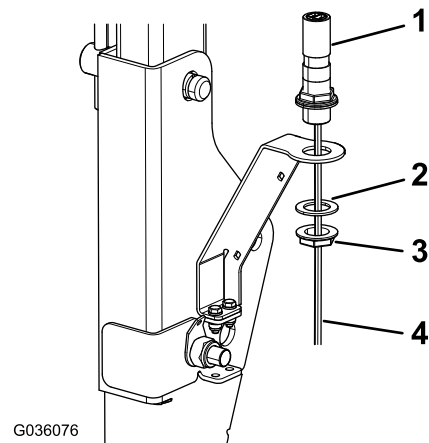

Figure 4
1. Install the beacon stand to the beacon bracket (Figure 4).